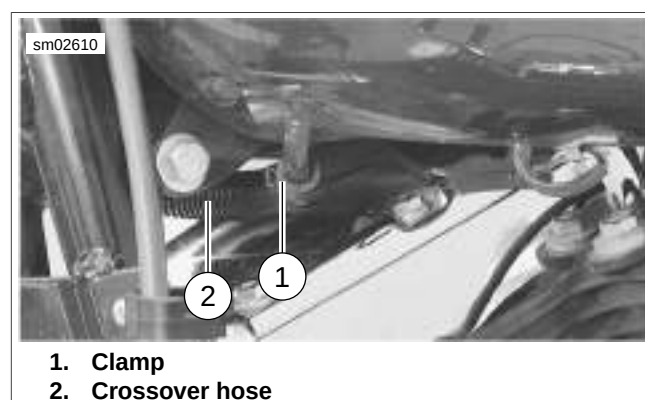

Figure 4-34. Fuel Crossover Hose
- b. See Figure 4-34. Cut clamp (1) from one end of crossover hose (2). Quickly replace crossover hose on fuel tank fitting with open end of short hose while directing flow of gasoline from free end of crossover hose into suitable container.